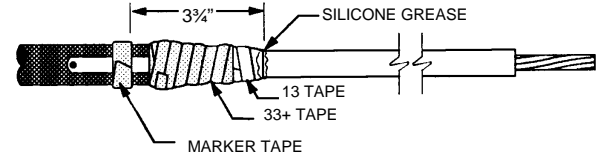

Figure 5
5. Wrap one half-lapped layer of highly stretched vinyl tape (e.g. Scotch™ Super 33+ Tape, not supplied in kit) over mastic strip and ground strap coil, to edge of previously applied 13 tape (**Figure 5**).
1. Place a marker tape $3\frac{3}{4}$ " (95 mm) back from the insulation end of the 13 Tape (**Figure 5**).
2. Cover the edge of the 13 Tape with a liberal coating of silicone grease (**Figure 5**). NOTE: On this product, the silicone grease does not serve as a lubricant. It must be used to fill the step at the 13 Tape leading edge. The silicone grease may also be used to fill in cable surface defects and can be applied over the ground strap seal to aid in core removal (step C-4).